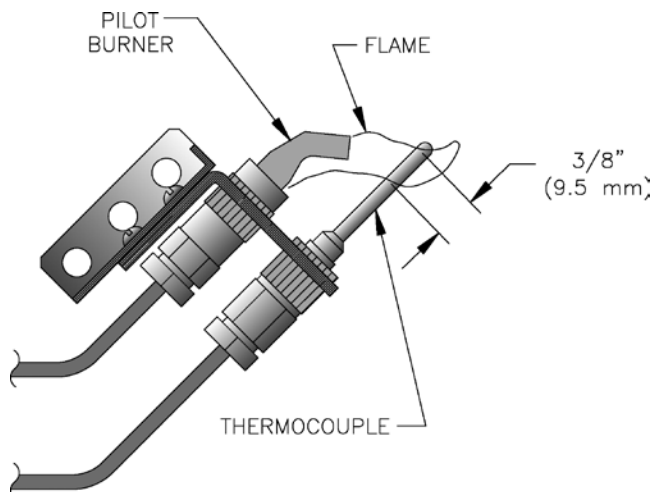

Figure 18: Pilot Burner Flame, Continuous Ignition
1. Continuous Ignition (standing pilot). See Figure 18. Pilot produces a single flame. Flame should be steady, medium hard blue enveloping 3/8 to 1/2 inch of thermocouple.